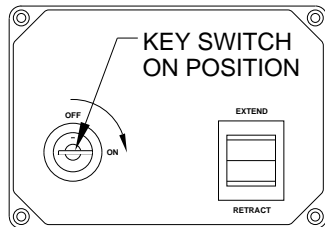

FIGURE 1
3. Turn the KEY SWITCH on the room extension operator's panel to the "ON" position. (See Figure 1)